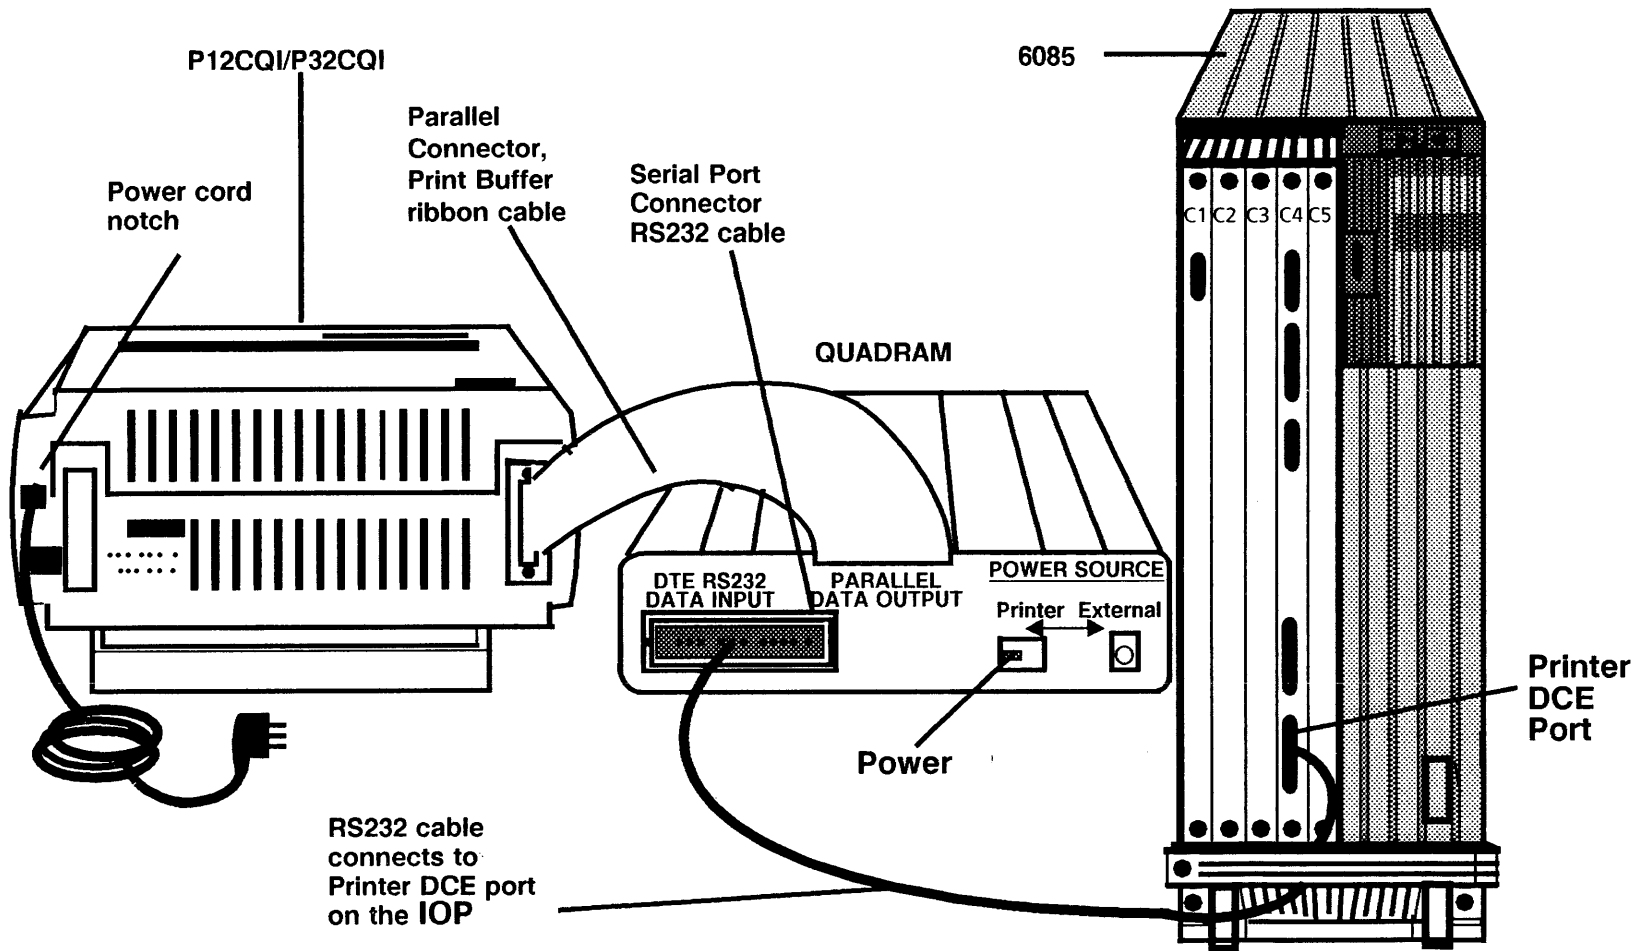

Figure 40. P12/P32 Connections
4. Refer to Figure 40 for proper connection.